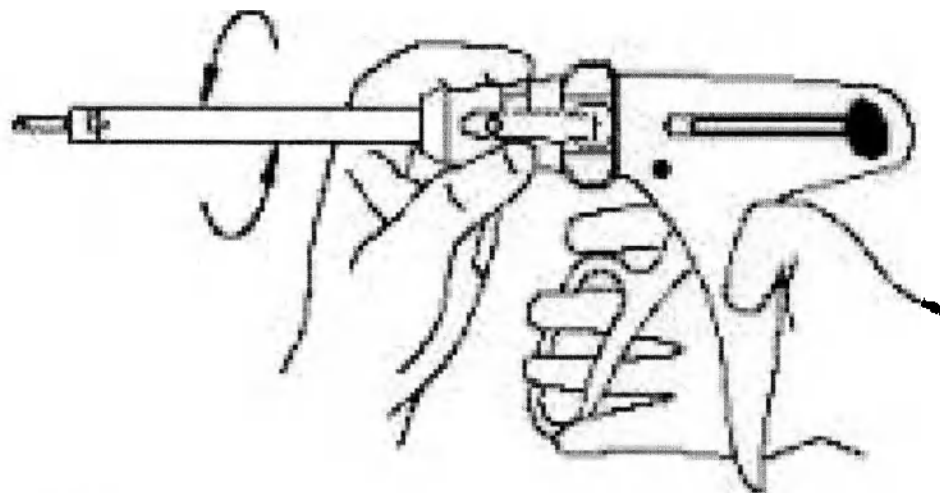
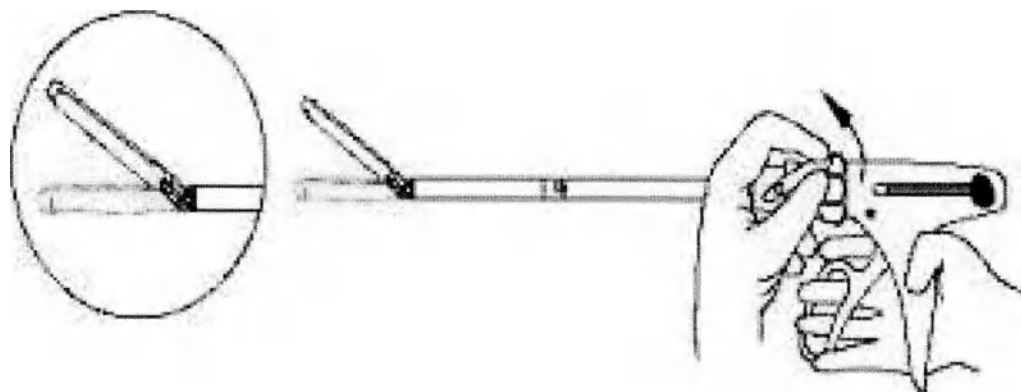

Figure 8.
Figure 9.
3. Adjust the lower swivel ring so that the stapler shaft rotates 360° (Figure 8). Rotate the top rotary ring so that the rotators rotate 35° in both directions. (Figure 9)